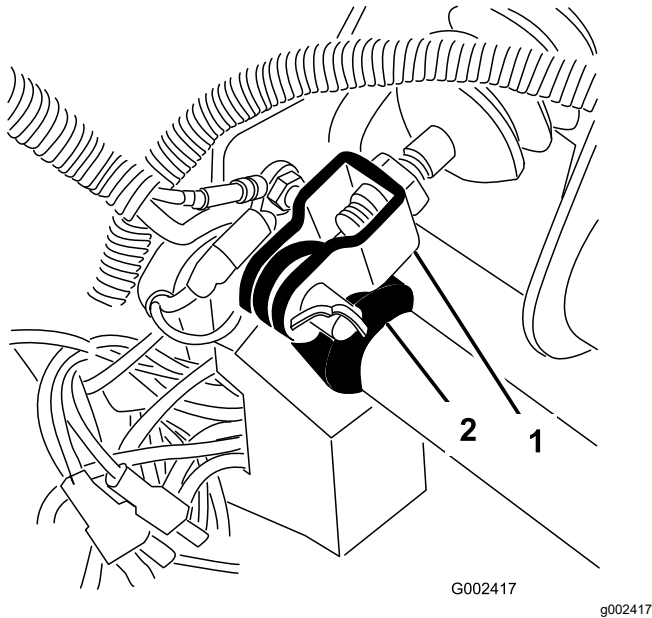

Figure 65
1. Remove the cotter pin and clevis pin securing the master cylinder yoke to the brake-pedal pivot (Figure 65).